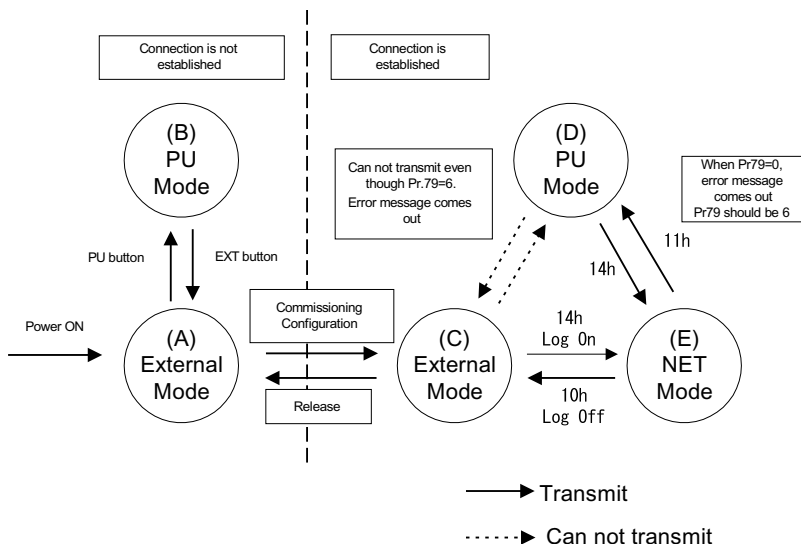

Figure 4-1 : Drive mode status
*3 The following chart indicates parameter read/write validity from Network at each status of Figure 4-1.